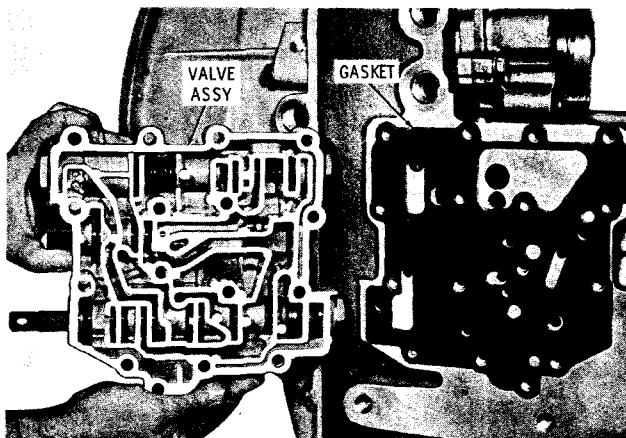

Fig. 5-6. Removing valve body and gasket
(2) Remove the control valve body and gasket (fig. 5-6). Refer to paragraph 6-3 for the control valve assembly rebuild instructions.